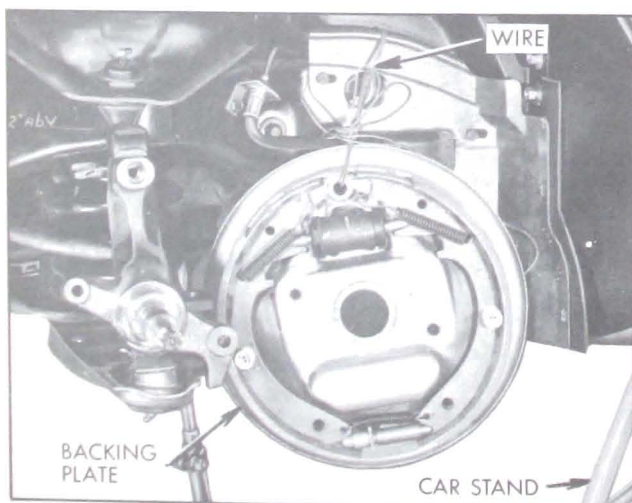

Figure 7-14—Wiring Brake Backing Plate Out of the Way
3. Remove the two bolts and nuts, and the anchor bolt holding the brake backing plate to the knuckle. Remove the backing plate but do not disconnect the brake hose. Support the backing plate in such a manner that the hose will not be damaged. Backing plate may be wired out of the way. See Figure 7-14.